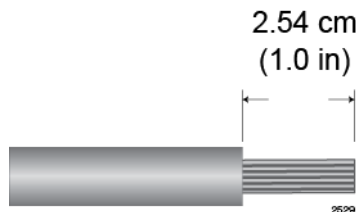

Figure 147. Stripping Solid or Stranded DC Power Wires
1. Prepare adequate lengths of two solid or stranded 8 AWG DC power wires by stripping them as shown in Figure 147.